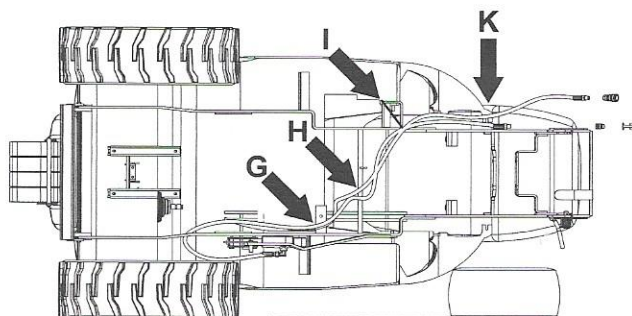

Figure 11C
7. Pass the two hoses along the frame on the left side, with one tractor hose (item 10). Attach without tightening with a tie wrap to the plate that fixes steel tubes of the tractor hydraulic system (item 14) at the place indicated by the letter G on figure 11C.
8. Look for the rod of the tractor brake system (item 15) and pass the two hoses close. Attach without tightening with a tie wrap the two hoses (item 1 & 2) to the rod of the tractor brake system (item 15) at the place indicated by the letter H on figure 11C.
9. Bring out the hoses under the tractor frame and attach without tightening to the frame plate indicated by the letter I on figure 11C.
10. Get out from under the tractor and go to the right front side of the tractor. Pull out a 30" average length of the 60" hose (item 1) and a 12" average length of the 75" hose (item 2).
11. Attach the hoses individually with a tie wrap to the frame plate of the tractor indicated by the letter K on figure 11C.
12. Install the 23" lg protective nylon sheath (item 17) over the 60" hose (item 1).